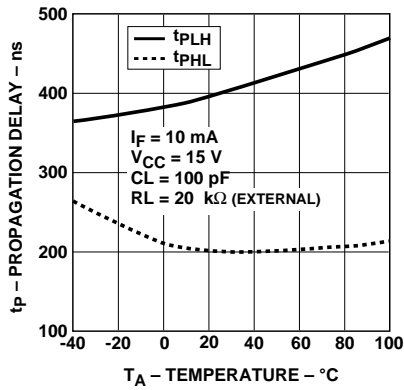

Figure 8. Propagation Delay with External 20 kΩ RL vs. Temperature.
- Due to tolerance of the internal resistor, and since propagation delay is dependent on the load resistor value, performance can be improved by using an external $20 \text{ k}\Omega$ 1% load resistor. For more information on how propagation delay varies with load resistance, see Figure 8.